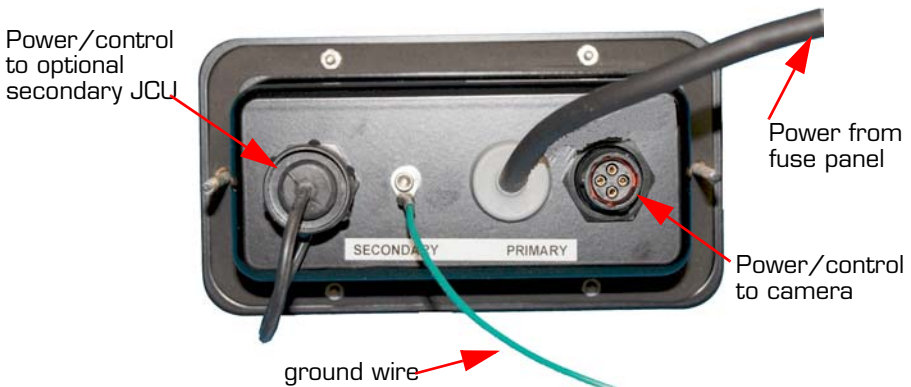

Figure 3-6: Joystick Control Unit Power and Control
- Step 2 Connect the JCU cable from the camera to the Primary connector on the back of the JCU. See Figure 3-6.